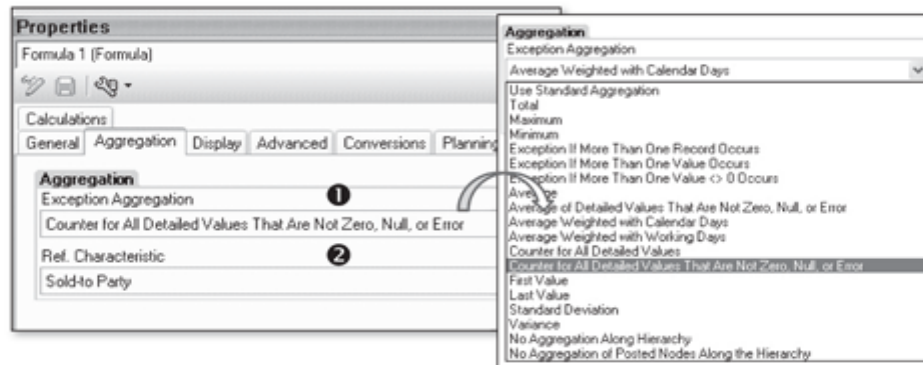

Figure 9.72 Key Figure Properties - Aggregation
On this tab page, you can specify how the aggregation should take place for the key figure when the query is executed. This tab is enabled only for query elements of type formula or CKFs (see Figure 9.72).
By default, the key figures are aggregated using standard aggregation. In a standard aggregation, the data read from the InfoProvider is first aggregated by the characteristics included in the rows/columns of the query. Then the formula is applied to the data after this aggregation. The Exception Aggregation option (❶) allows you to define if you want to aggregate the data in a certain specific manner and with respect to the reference characteristic. The different options of Exception Aggregation are available under the dropdown shown in Figure 9.72.